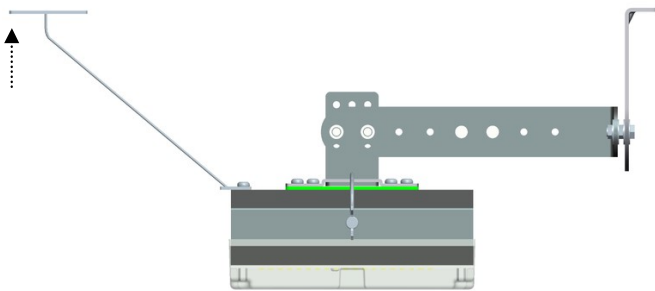

FIG.6
3. Secure the metal cord (already with one end attached to the LED head) to the fixture, for secure purpose. See FIG.6.
4. Secure the metal cord(s) (already with one end attached the LED head, see FIG. 6) to the fixture, for secure purpose.